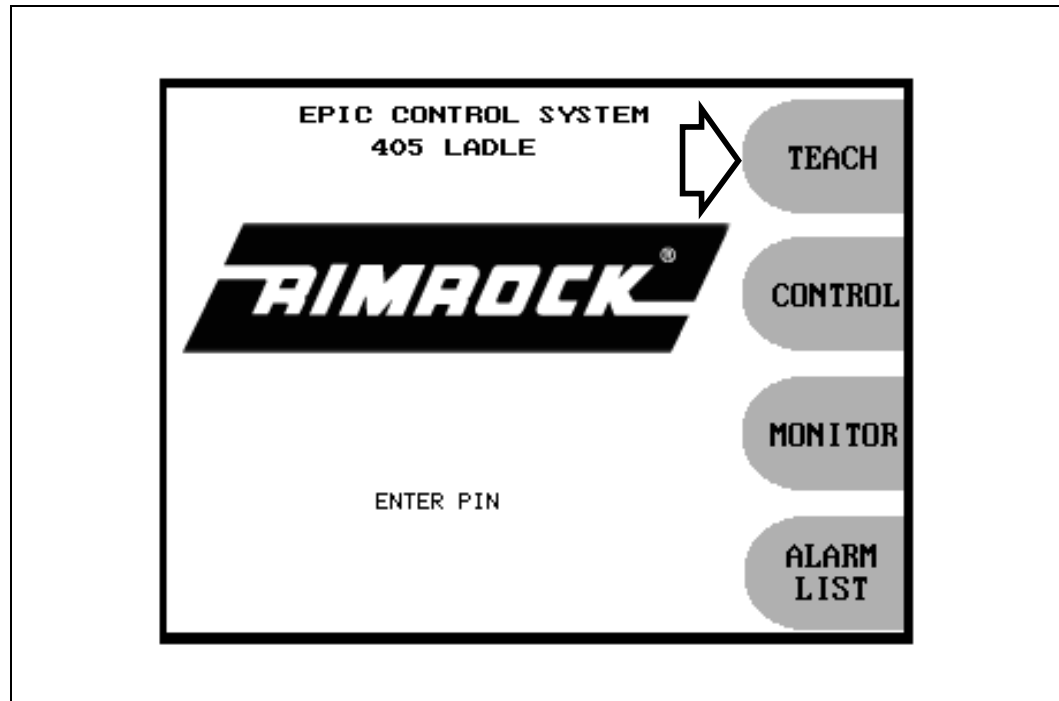
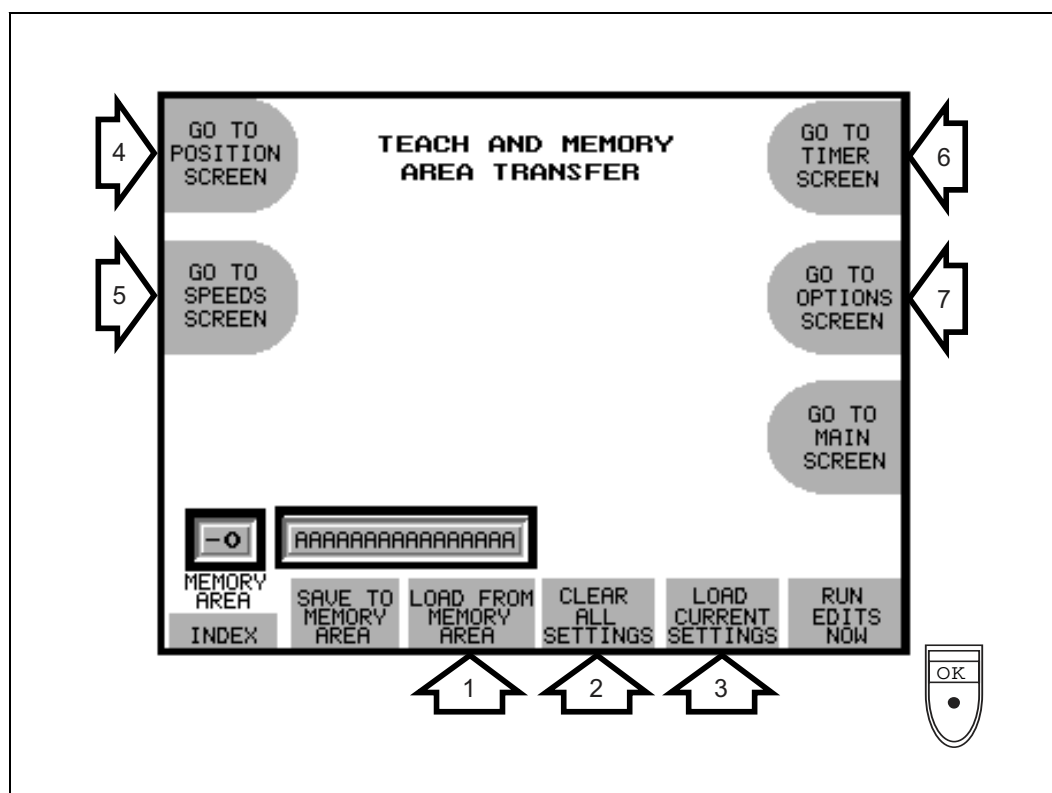
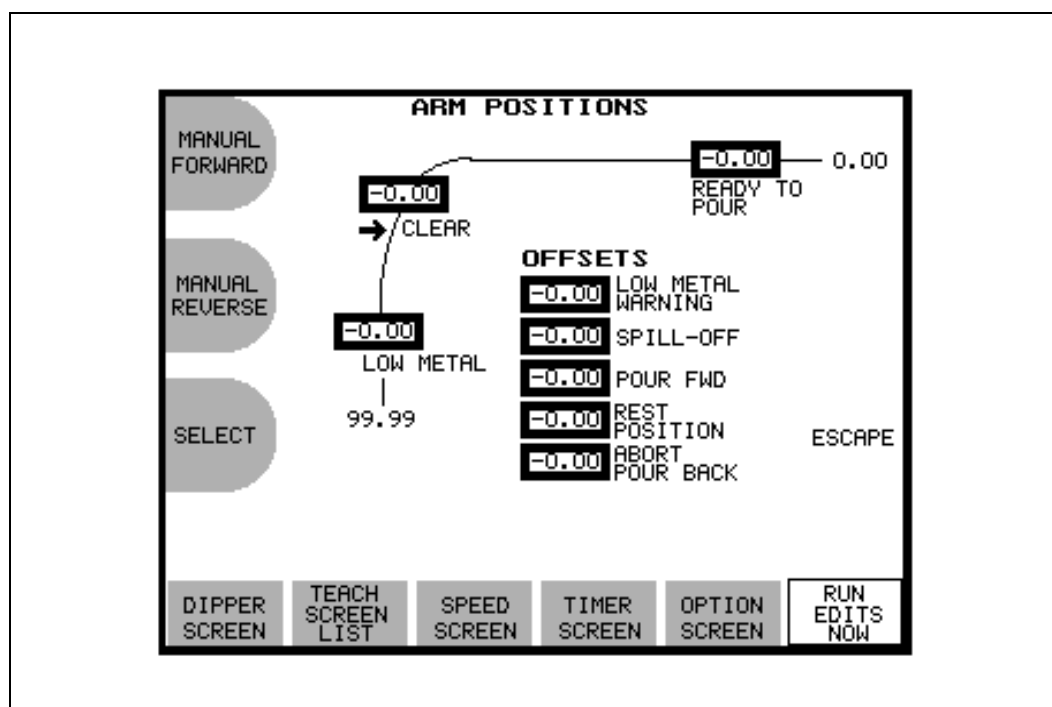
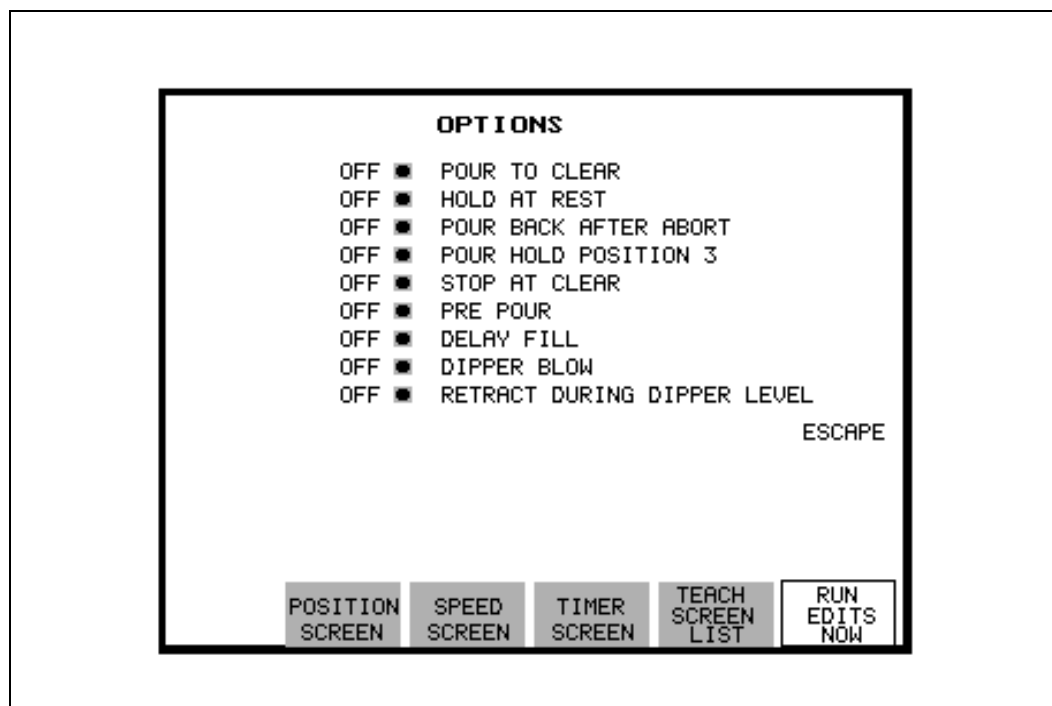

Figure 7-4: Example Teach Key
Figure 7-5: Teach and Memory Area Transfer Screen
Figure 7-6: Arm Positions Screen
Figure 7-9: Options Screen
2. Press the **TEACH** key (Figure 7-4). The Teach and Memory Area Transfer Screen displays (Figure 7-5).
- a. Press the **CLEAR ALL SETTINGS** (#2 on Figure 7-5) to start with blank scratchpads on the Positions, Speeds, Timer, and Options Screens (Figure 7-6 through Figure 7-9).